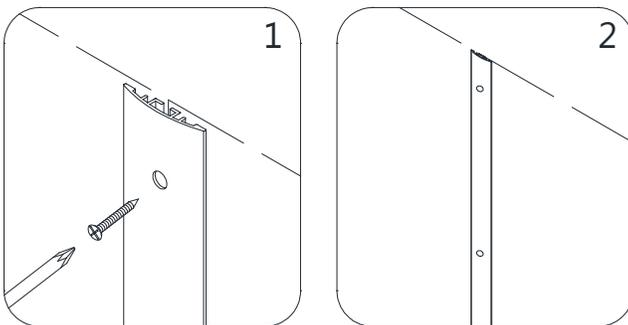

**Fig 8a**
**8.** Place the **Back Panel (#02)** onto a flat piece of plywood or particle board. Use a T-square and a sharp industrial knife to score along the cut lines (from the previous step) on the **Back Panel (#02)** and continue scoring until fully cut through the panel. **(Fig 8a and Fig 8b)**